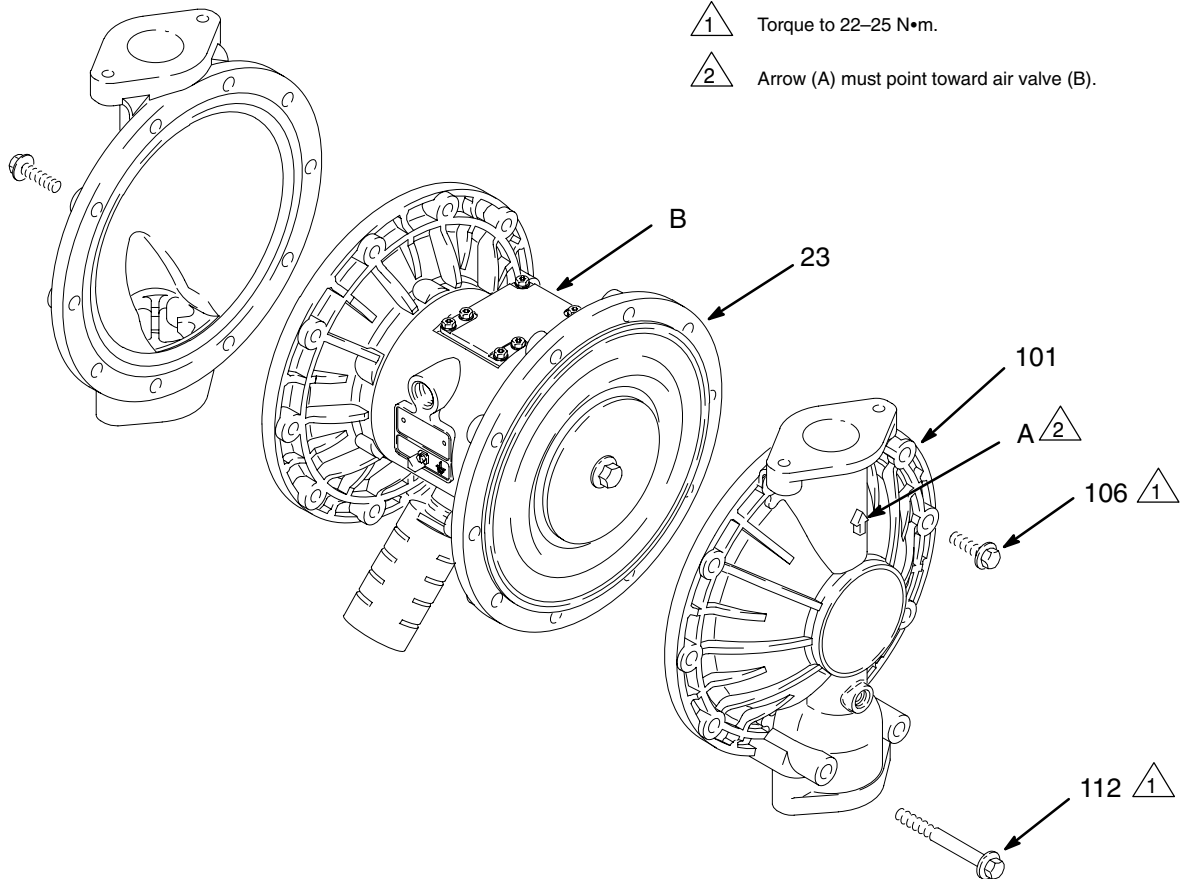

Fig. 11
3. Using a 13 mm socket wrench, remove the screws (106 and 112) holding the fluid covers (101) to the air covers (23). Pull the fluid covers (101) off the pump. See Fig. 11.
- 2 Arrow (A) must point toward air valve (B).
2. Install the diaphragm assembly on one end of the shaft (24) as follows:
- a. Install the o-ring (108*) on the shaft bolt (107).
6. Align the fluid covers (101) and the center housing (1) so the arrows (A) on the covers face the same direction as the air valve (B). Secure the covers with the screws (106 and 112), handtight. Install the longer screws (112) in the bottom holes of the covers. See Fig. 11. Using a 13 mm socket wrench, torque the screws oppositely and evenly to 22–25 N•m.